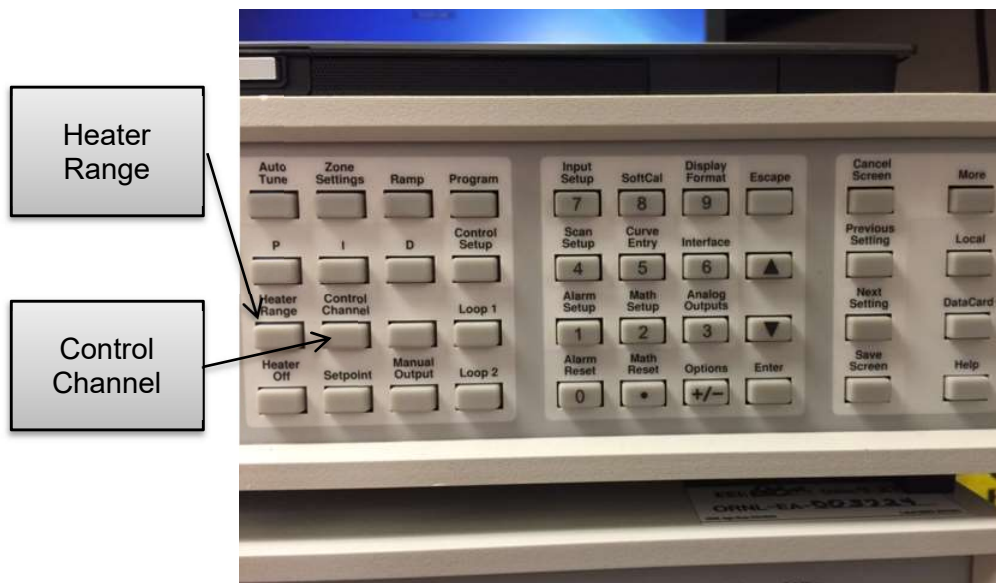
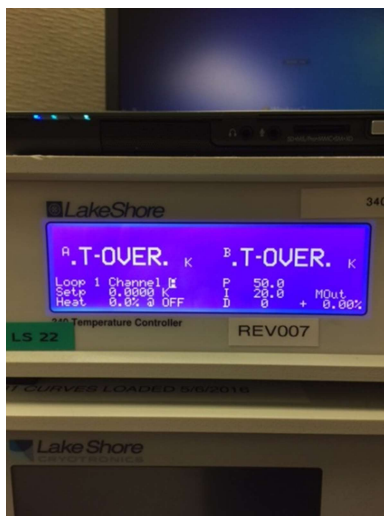

Figure 11
Figure 13
- 2.14 Press heater range key (Figure 11).
- 2.17 Ensure control channel is set to appropriate input (Figure 13). If control channel needs to be changed, press control channel (Figure 11).